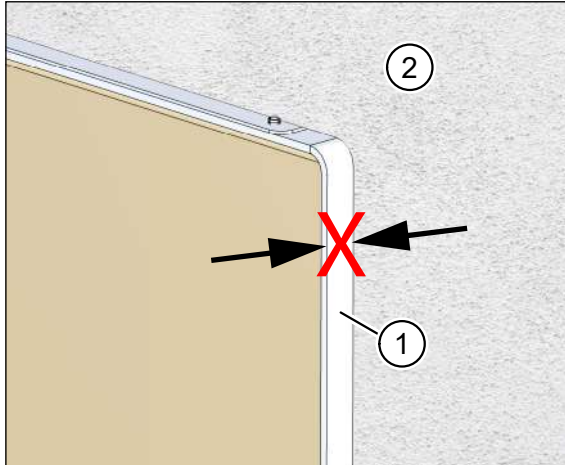

Fig. 59: The plastering trim must NOT protrude above the cladding
- The plastering trim must NOT protrude above the eventual internal wall cladding (see Fig. 59 on page 49) otherwise there will be an unsightly gap between the plastering trim and the unit cover (U2 cover).
- The plastering trim (item 1 in Fig. 59) must NOT protrude above the plasterboard (item 2 in Fig. 59).